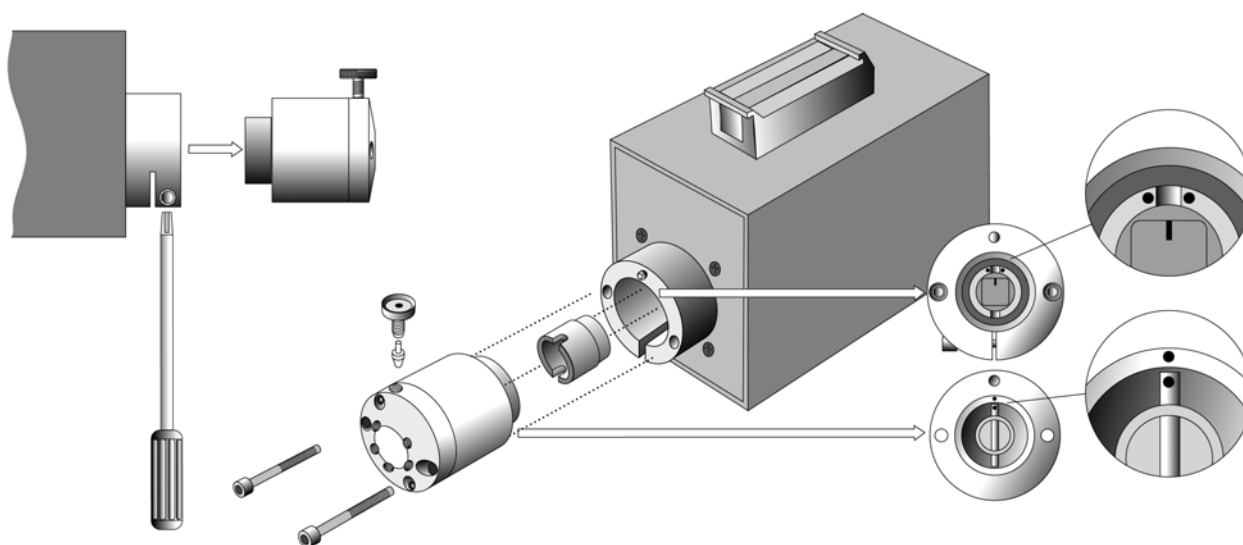

Figure 35. Replacing the Standard LC Injection Valve, Valco/VICI Cheminert
To replace and/or clean the Cheminert injection valve follow the steps as shown in Figure 35.
- 1 Remove the sample loop, needle guide fitting and connection tubes from the valve body. See Figure 35, left picture. (It is a good practice to label the connection tubes before removal.)